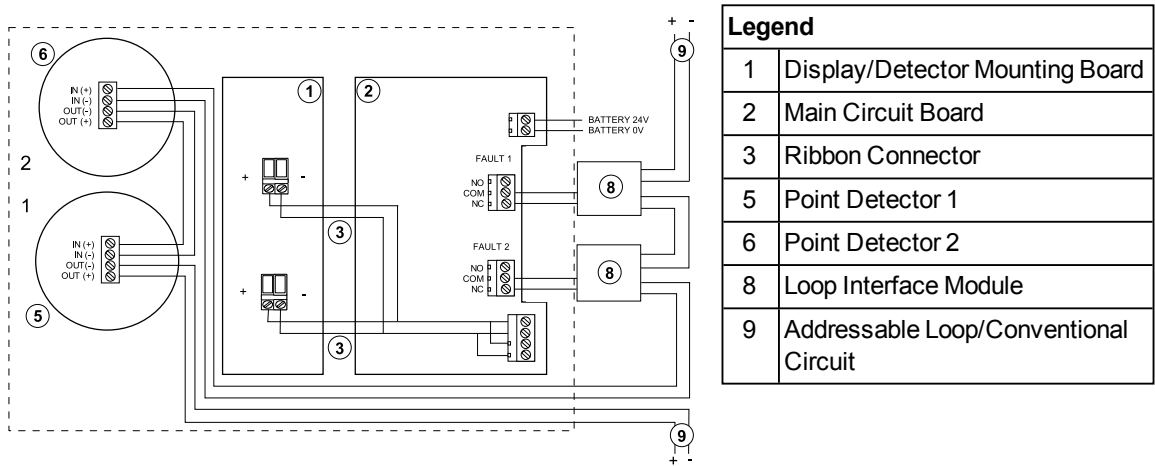

Figure 2-10: Wiring diagram showing directly wired Addressable Detectors
2. To ensure the correct operation of the Short Circuit Isolation functionality, point detectors or bases with Short Circuit Isolation approved to EN 54-17 should be wired directly to the loop as shown in Section 2.3.6, Figure 2-10.